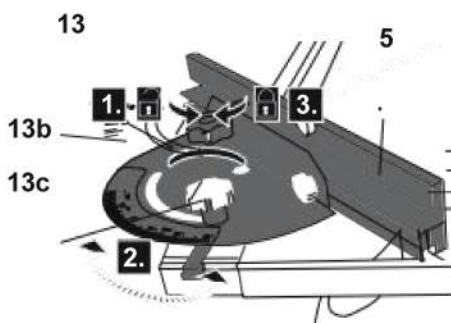

Fig. 12
- > Turn the miter fence locking knob (13c) counterclockwise to loosen it (fig. 12 step 1).
- > Set the miter fence (13) to the desired angle on the scale of the miter fence (13b). The angle is indicated by a center line on the guide rail (13a) (fig. 12, step 2).
- > Turn the miter fence locking knob (13c) clockwise to tighten it (fig. 12 step 3).